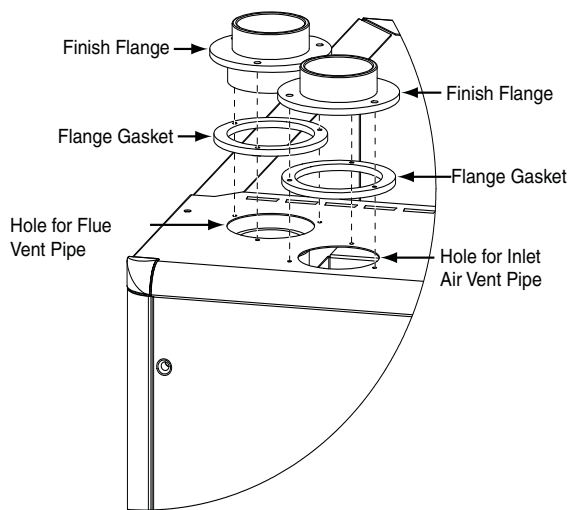

Figure 31. Finish Flanges
1. Position a flange gasket (Figure 31) on a finish flange, aligning screw holes in the gasket and flange.